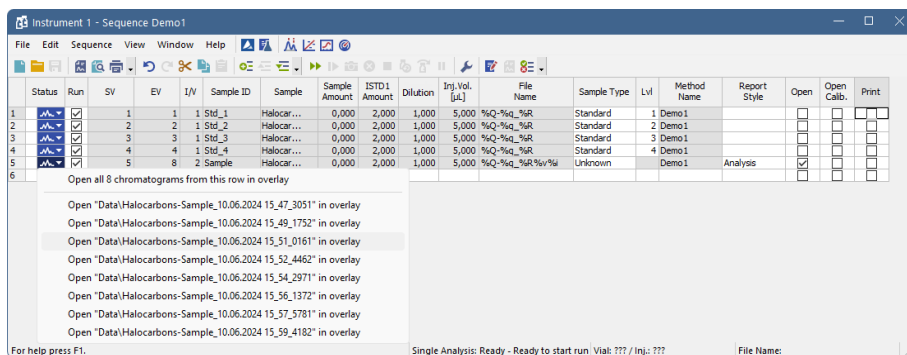

Fig. 20: Opening chromatograms in overlay
- A small triangle will appear in the icon  if a chromatogram is produced by the particular measurement in the row. Left mouse click on the triangle will open the menu where you can open the measured chromatogram(s). You can click on the name of the chromatogram to open it or select option to open all chromatograms in overlay as seen in **Fig. 20** on pg. 35.